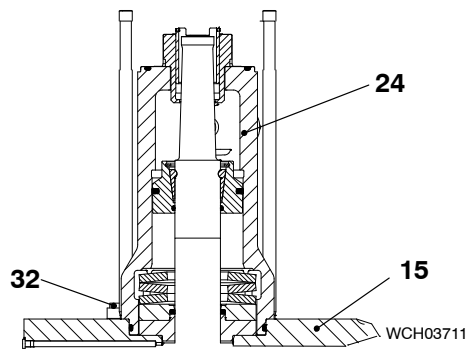

Fig. 5
- 10) Attach the lifting tool (94209) to the housing (24, Fig. 5) and the crane.
- 11) Lift, then lower the bottom housing (24) on to the valve cage (15).
- 12) Install the six screws (32).